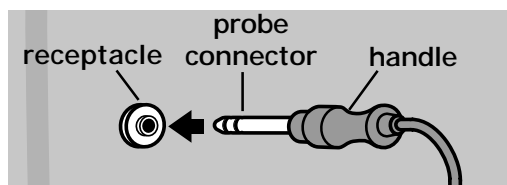

Fig. 1
3. Plug the connector end of the probe all the way into the receptacle while the oven is still cool. The **receptacle** is located on the upper left front oven cavity wall (Fig. 1).